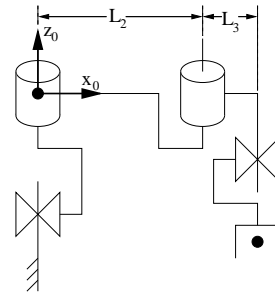

Figure 4: PRRP manipulator
- Consider the PRRP manipulator schematic shown in Figure 4.